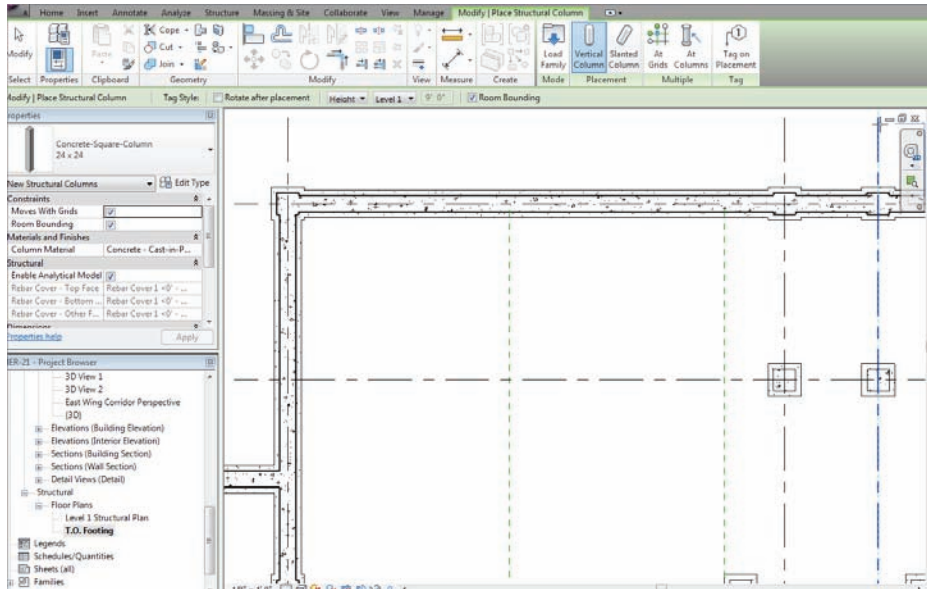

FIGURE 8.67 The completed foundation
2. On the Foundation panel of the Structure tab, select the Isolated Foundation button, as shown at the top of Figure 8.67.
16. Your foundation plan should resemble Figure 8.67.